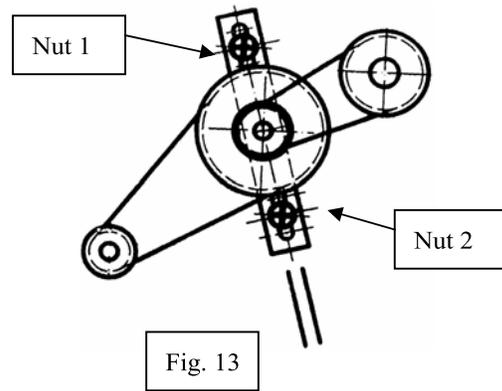

Fig. 13
6.1.2. O-Belt adjustment: See Fig. 13. Open case. Loose nut 1 and nut 2. Move the belt seat following the arrow direction to adjust the O-belt.